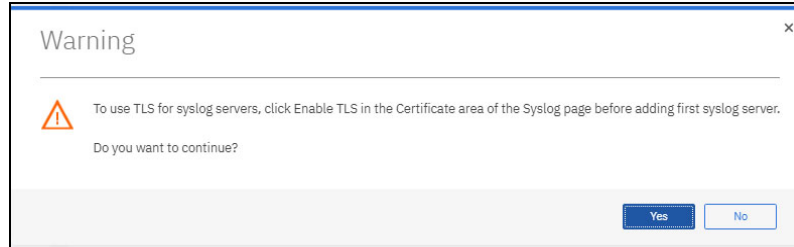

Figure 9-27 Warning to enable TLS
2. On the Notifications window, select **Add Syslog Server**. You receive a warning to enable TLS first before adding any Syslog server, as shown in Figure 9-27.